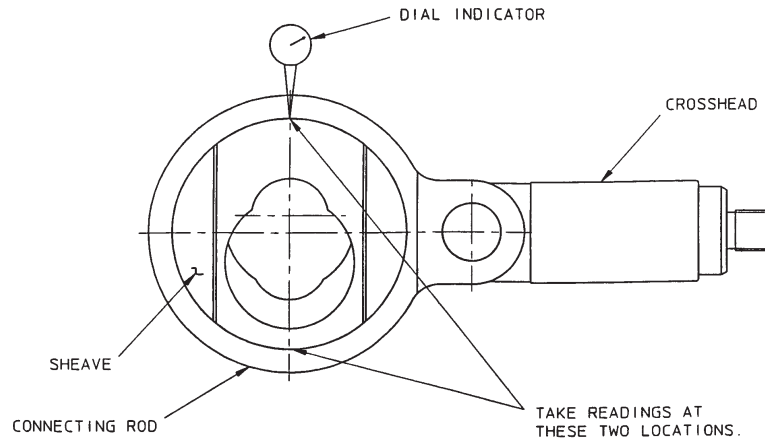

Figure 4-1. Eccentric Shaft Alignment
- c. Screw the carrier bearing (22) to the stroke adjust housing (25) up to the edge of the two holes for the detent pawls (52). Position the two holes so that they are horizontal.
- e. Turn the carrier bearing (22) clockwise until it stops. The bearing (19) must be against the eccentric shaft (45) shoulder before tightening the screw (21) (removed in step c above).
- f. Set the stroke position to approximately zero by turning the carrier bearing (22) counterclockwise until it stops. Then rotate the carrier bearing one turn clockwise.
- g. Place a dial indicator with a magnetic base on top of the gearbox. Set the indicator shaft to indicate the eccentricity of the sheave (46), as shown in Figure 4-1.